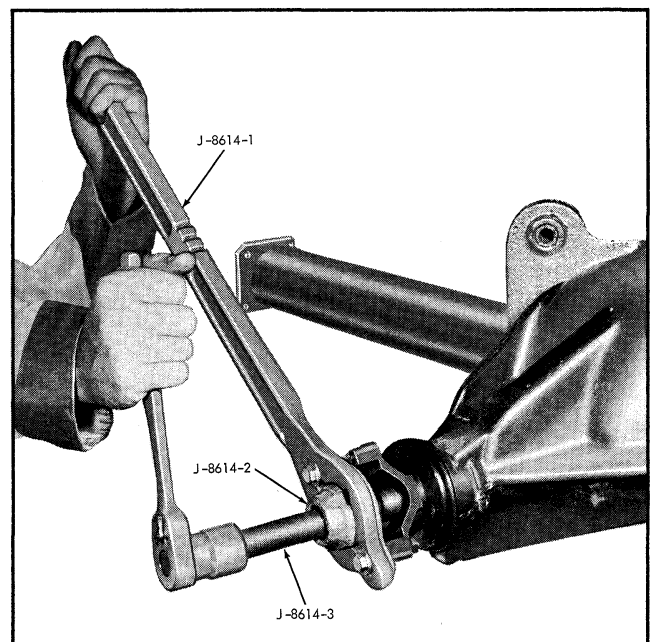

Fig. 4-8 Removing Companion Flange
5. Remove companion flange using puller J-8614-2 and 3 (Fig. 4-8).
7. Remove companion flange using puller J-8614-2 & 3 (Fig. 4-8).